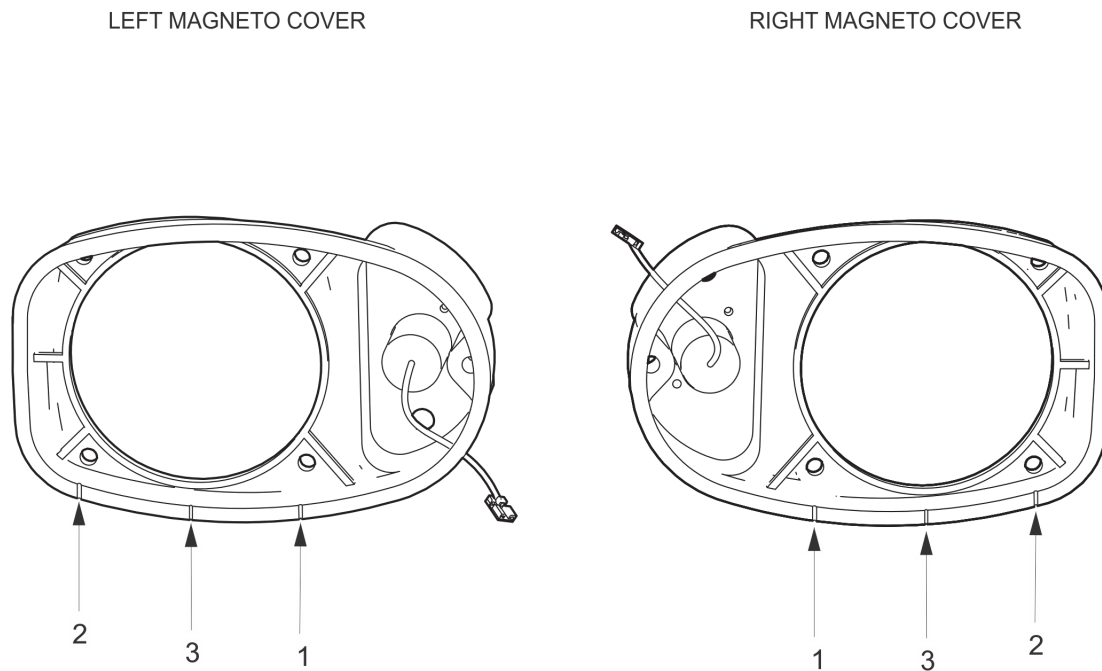
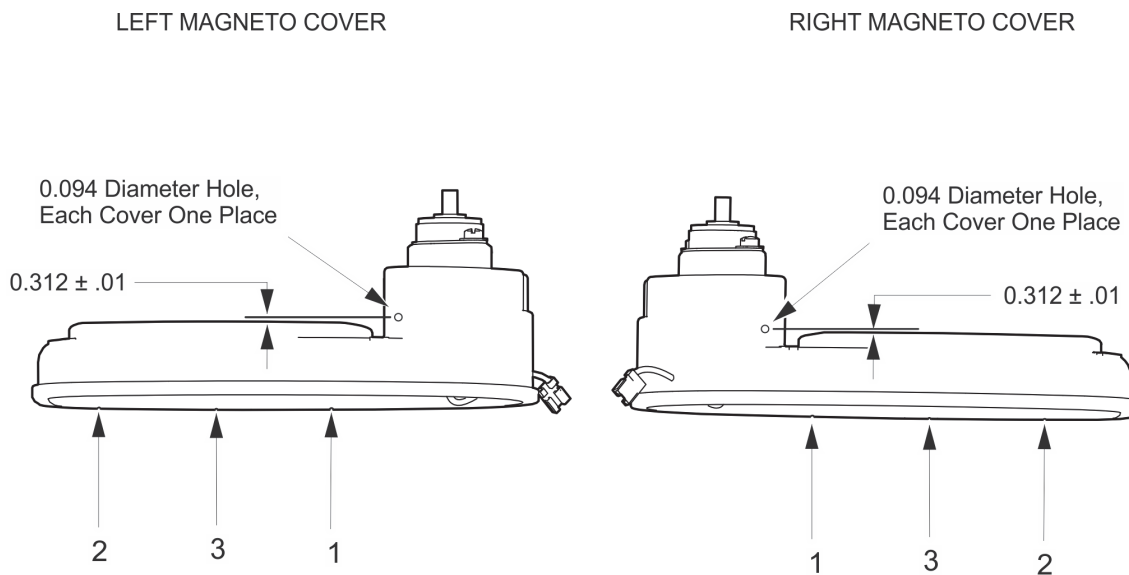
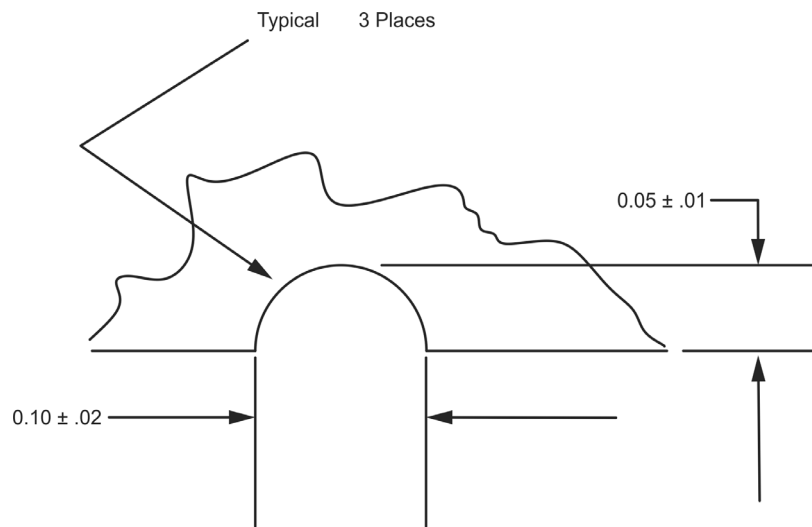

Figure 8-1. Location of Drain Holes - Inside View
Figure 8-2. Location of Drain Holes - Side View
Figure 8-3. Moisture Drain Slot Configuration
1. Disassemble the cover (6) from the housing (72) as specified in Section 4-2.8.
2. Lay out the positions for the moisture drains (Figure 8-1 and Figure 8-2). Positions 1 and 2 are in line with the stud holes in the cover (6) and position 3 is centered between 1 and 2. Using a small round file, create the three semi-circular recesses as detailed in Figure 8-3.
3. Lay out the position for drilling a 0.094 in. $\pm$ 0.005 inch hole in the center of the ledge of the cover (6). Drill one hole in the cover using a 3/32 inch or No. 42 drill (Figure 8-2).